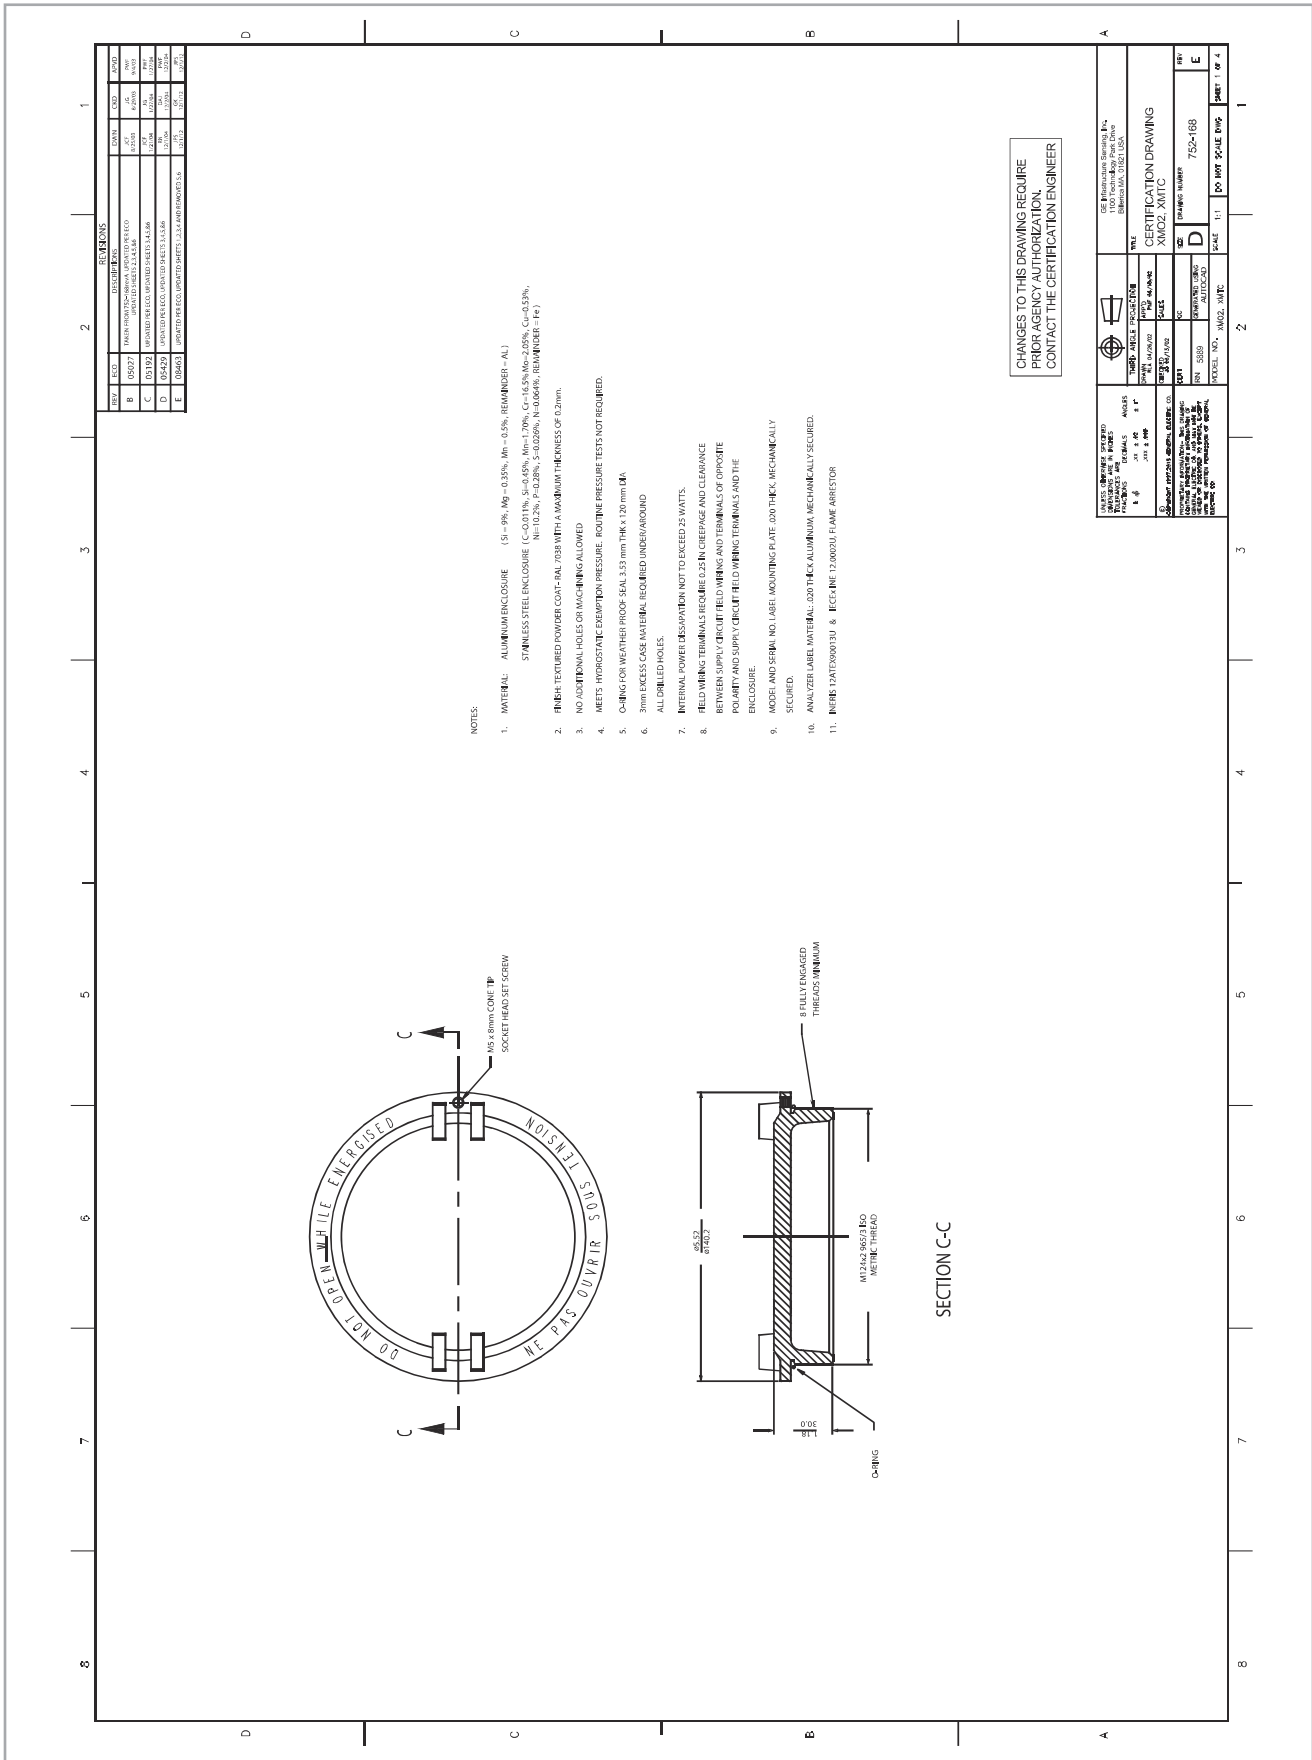

Figure 61: Certification drawing (ref. dwg #752-168, Rev. E, SHI)
- Figure 61, "Certification Drawing (ref. dwg #752-168, Rev. E, SH1)" on page 46